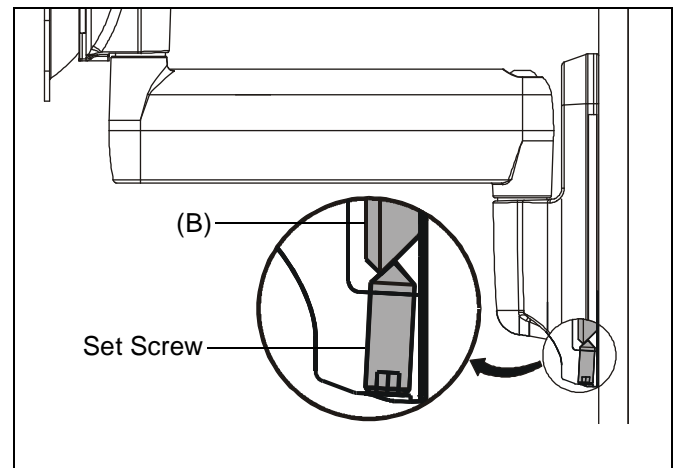

Figure 3
5. Using 5/32" key (N), tighten set screw (See Figure 3). Ensure set screw engages *back* side of wall plate (B) to properly secure mount.